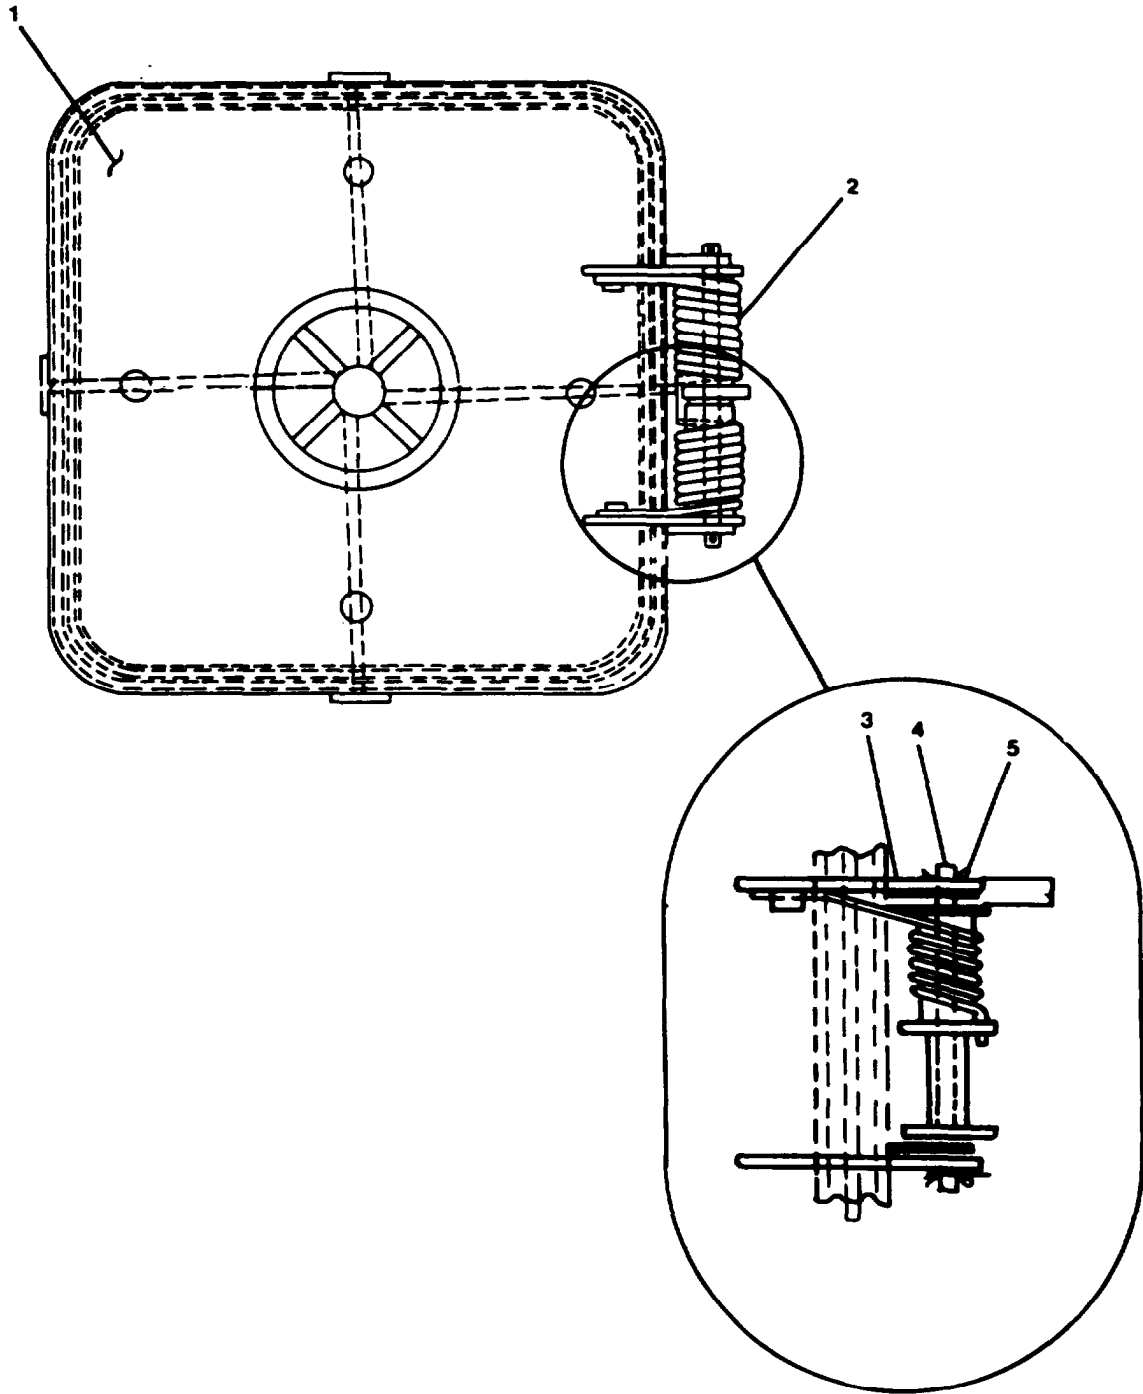

FIGURE 2-178. Replace Watertight HATCH, Quick Action.
- a. Open hatch (1, FIGURE 2-178).
- b. Remove cotter pins (5) from cylindrical pin (4).
- c. Remove cylindrical pin (4) and flat washers (3) from hinge (2).
- d. Remove hatch (1) from closure.
- a. Place hatch (1, FIGURE 2-178) in position on frame.
- b. Install flat washers (3) and align holes.